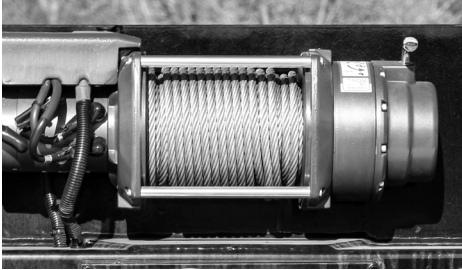

Figure 26
1. Use all safety precautions and procedures when operating the winch. (Figure 26)